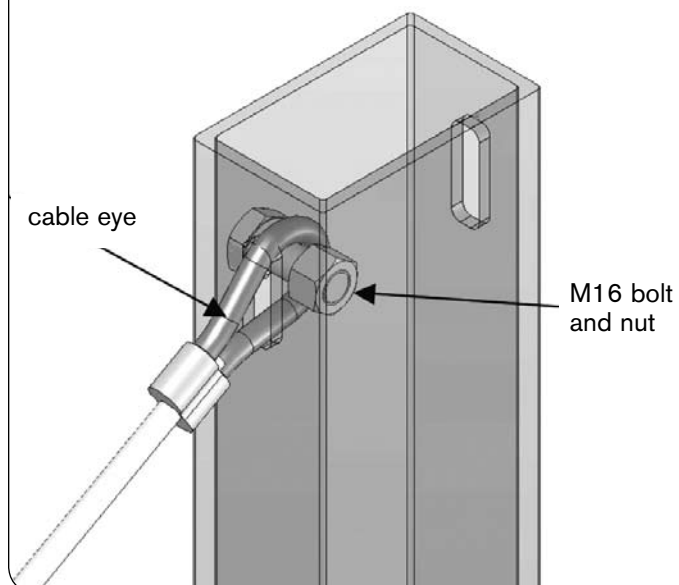

Fig. 3C Early Version cable-gin pole assembly details
- Early and Late model gin poles – using a 16 mm nut and bolt connect one cable end to the gin pole as shown in **Fig 3C**. Connect the other end of the cable to the welded tab on the tower using one of the supplied shackles.
- Early model gin pole only – connect the second cable to the gin pole using a 16 mm nut and bolt as depicted in **Fig 3C**.